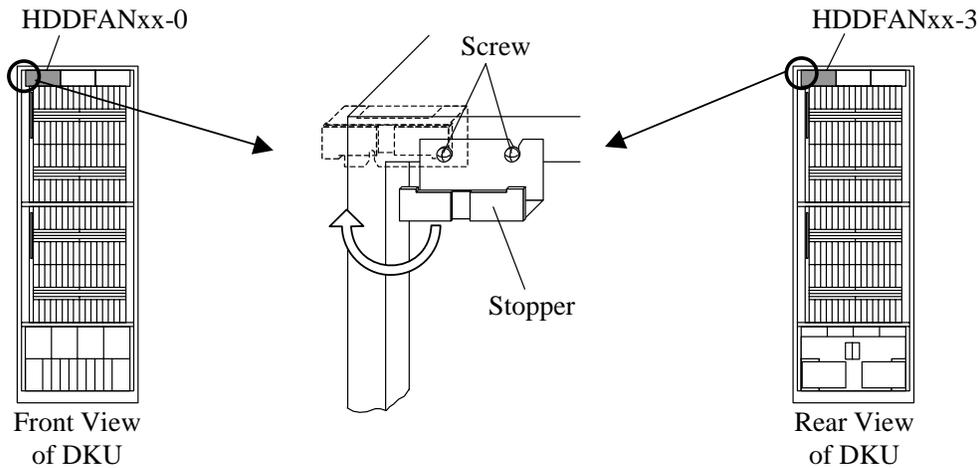

Fig. T14-1 Rotation of Stopper
- f. If the HDDFANxx-0 or HDDFANxx-3 is replaced, return the stopper to original position in the reverse order of step a. If not, go to step 2. (Refer to Fig. T14-1.)